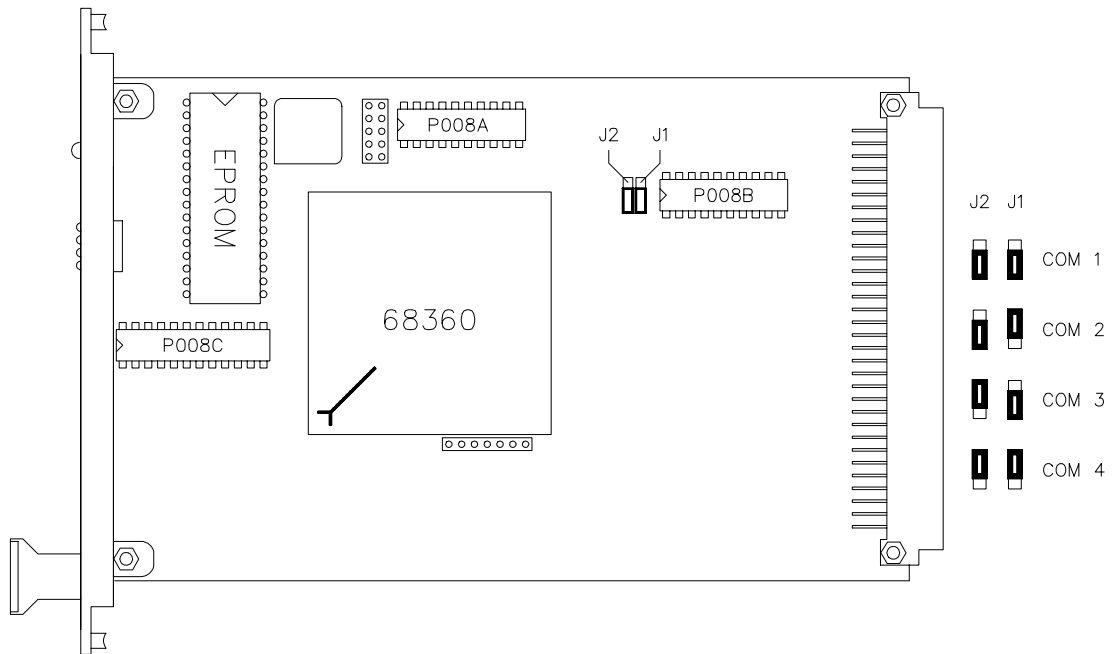

Figure 2 Jumper positions on 10008/2/U
- EPROM (4 Mbit) for the FSC firmware program (see Figure 2),
The FSC-SMM communication module can operate as COM1, COM2, COM3 or COM4. The COM number is set using jumpers J1 and J2 on the board (see Figure 2).